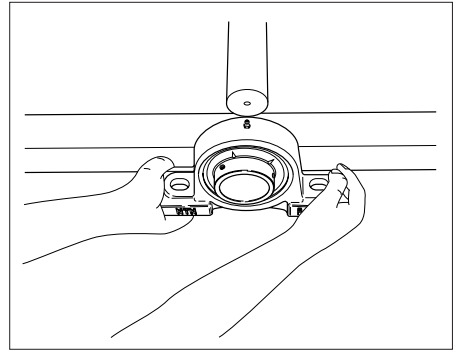

Fig.8.5
- 2) Hold the bearing unit with hands squarely to the shaft, and fit it over the shaft straight. Do not turn it. NEVER exert any impact to the bearing unit, nor hit the flinger (**Fig.8.5**).